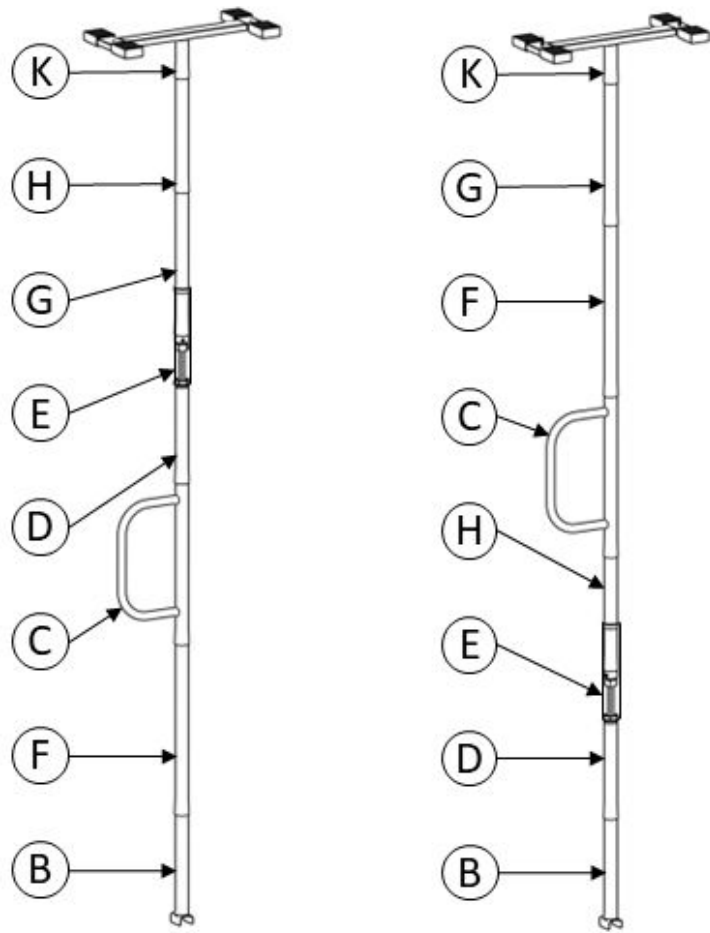

FIGURE 5A
5. Stack the necessary parts starting with **B** and ending with **K**. This can be done standing up or with the parts laying down. The height of **C** can be adjusted by changing the stacking order. Shown below in *FIGURE 5A* are two examples of a 93-96 in distance. There are many different stacking options for each height range.